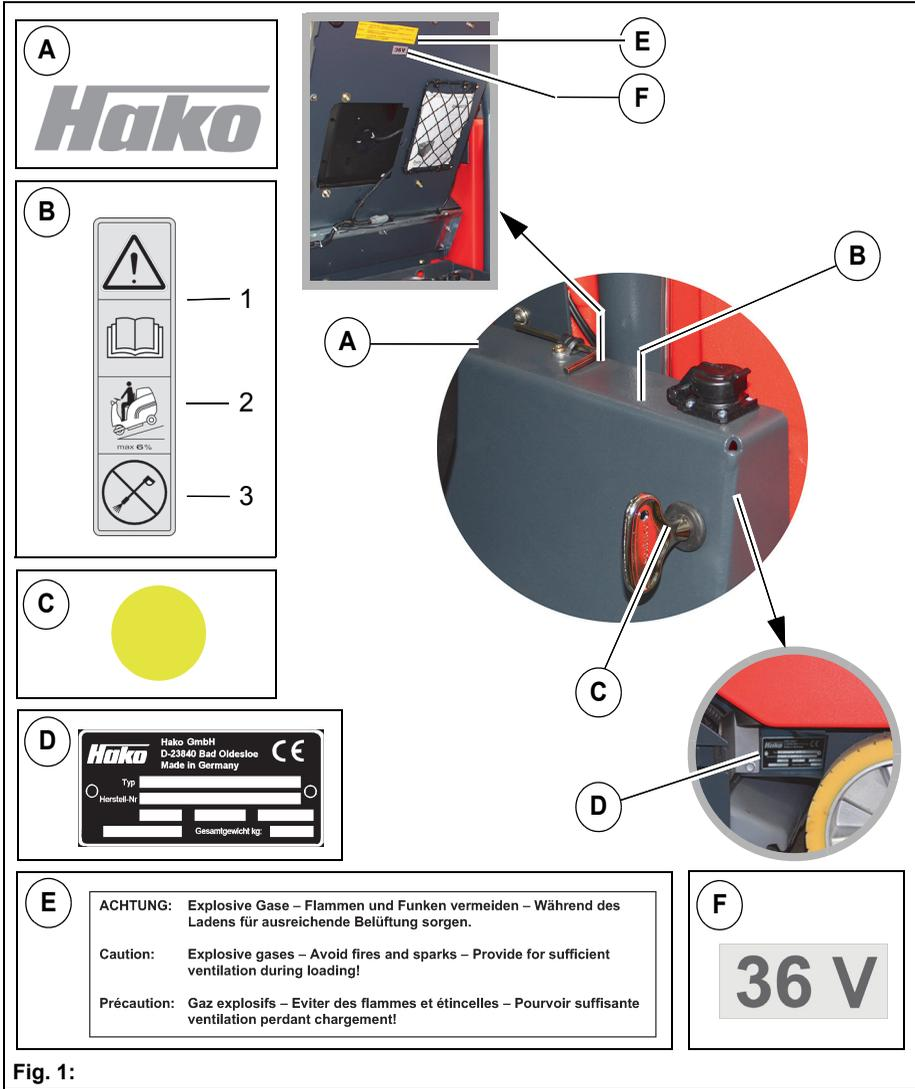
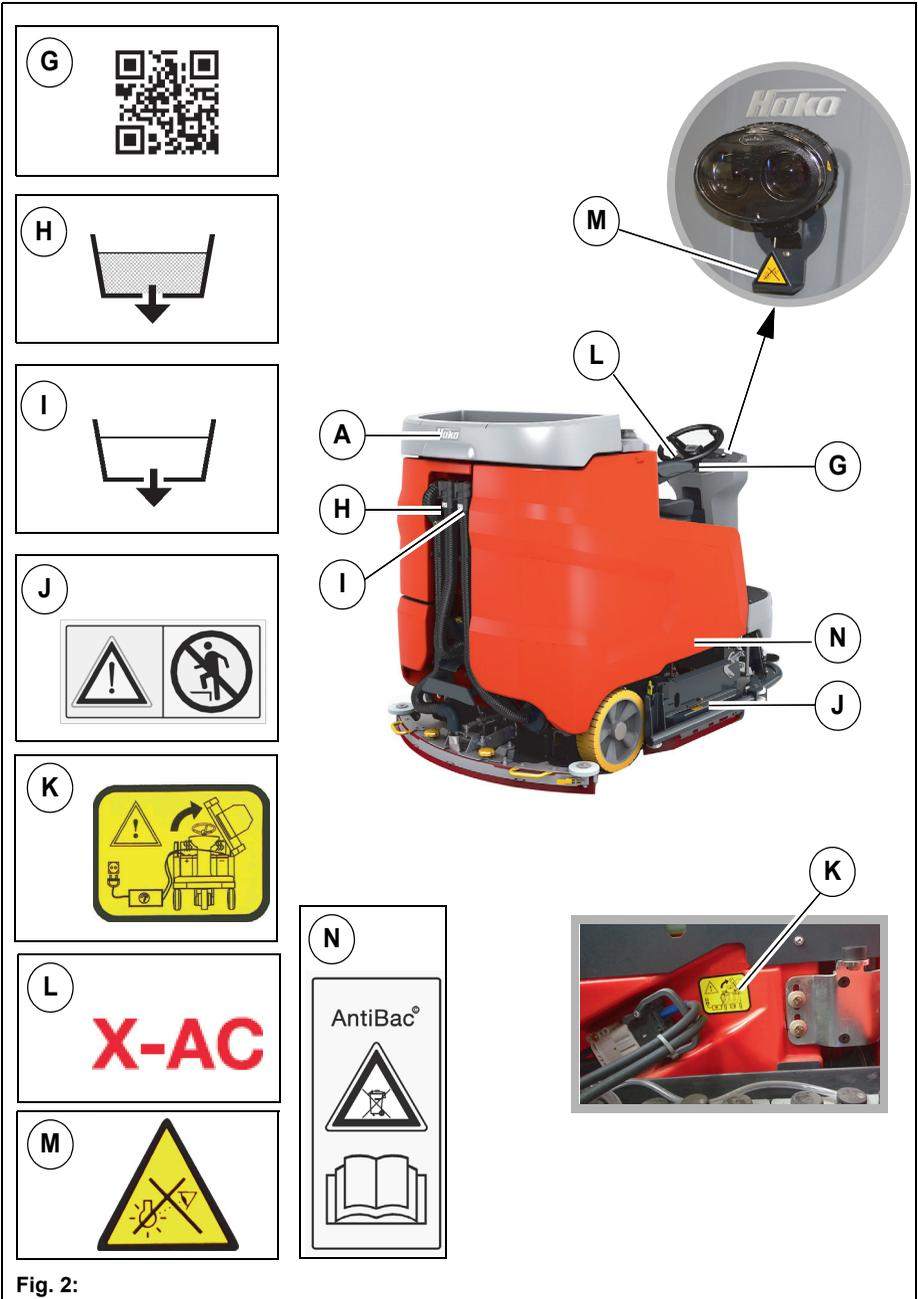

Fig. 1:
Fig. 2:
Label – Company logo Fig. 1/ Fig. 2-A
- Read and observe the operating manual Fig. 1-B1
- Maximum permissible slope 6 % when cleaning Fig. 1-B2
- Never clean the machine with a high-pressure cleaner Fig. 1-B3
Label – Maintenance parts (yellow dot) Fig. 2-C
Type plate Fig. 2-D
Label – Explosive gases Fig. 1-E
Label – 36 V Fig. 1-F
Label – QR code Fig. 2-G
Label – Drain waste water Fig. 2-H
Label – Drain fresh water Fig. 2-I
Label – Keep off! Fig. 2-J
Label – Leave seat console open during the charging procedure! Fig. 2-K
Label – X-AC-drive Fig. 2-L
Printing – Do not dispose of AntiBac® tanks in the domestic waste! Fig. 2-N